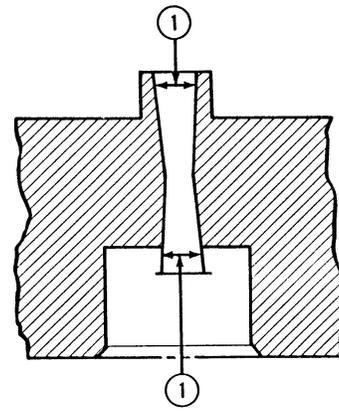

FIGURE 1-37
2. Using a small hole gauge, measure the valve guide bore at the top and bottom wear points as shown, Figure 1-37.